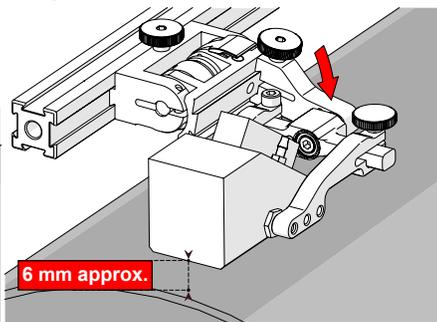

Fig. 107 - Lower to scanning surface
2. Push the probe holder yoke down toward the inspection surface until the wedge is approximately 6 mm ($\frac{1}{4}$ in) above the inspection surface (Fig. 107).